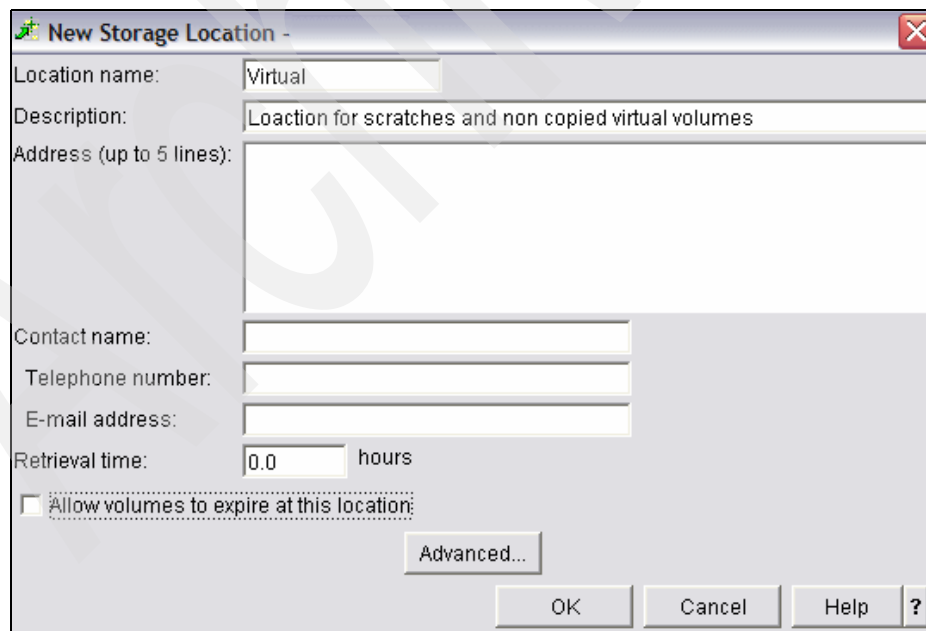

Figure 7-2 BRMS create location VIRTUAL
5. Click **OK**, as shown in Figure 7-2.